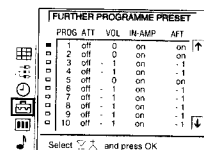

Fig. 18
- Select »Further Programme Preset« with Δ or ∇ and press OK. The FURTHER PROGRAMME PRESET menu appears (See Fig. 18).